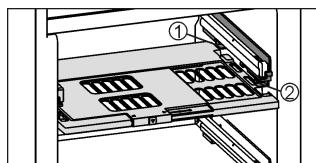

Fig. 28
- To insert the humidity control plate: Insert the cover mouldings of the plate into the rear holder Fig. 28 (1) from underneath and engage them in the holder Fig. 28 (2) at the front.